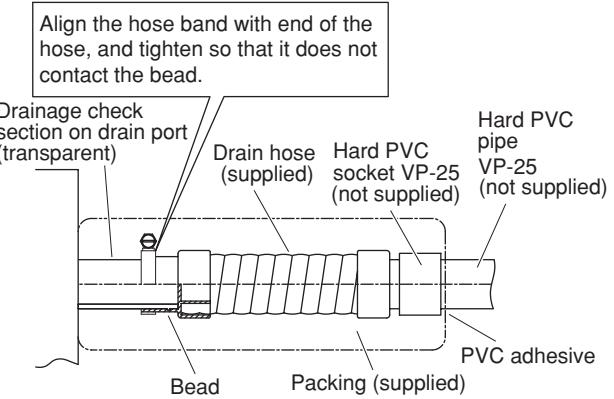

Fig. 3-26a
(1) Prepare standard hard PVC pipe (O.D. 32 mm) for the drain and use the supplied drain hose and hose band to prevent water leaks. The PVC pipe must be purchased separately. The unit's transparent drain port allows you to check drainage. (Fig. 3-26a)
- **Tighten the hose clamps so their locking nuts face upward. (Fig. 3-26a)**